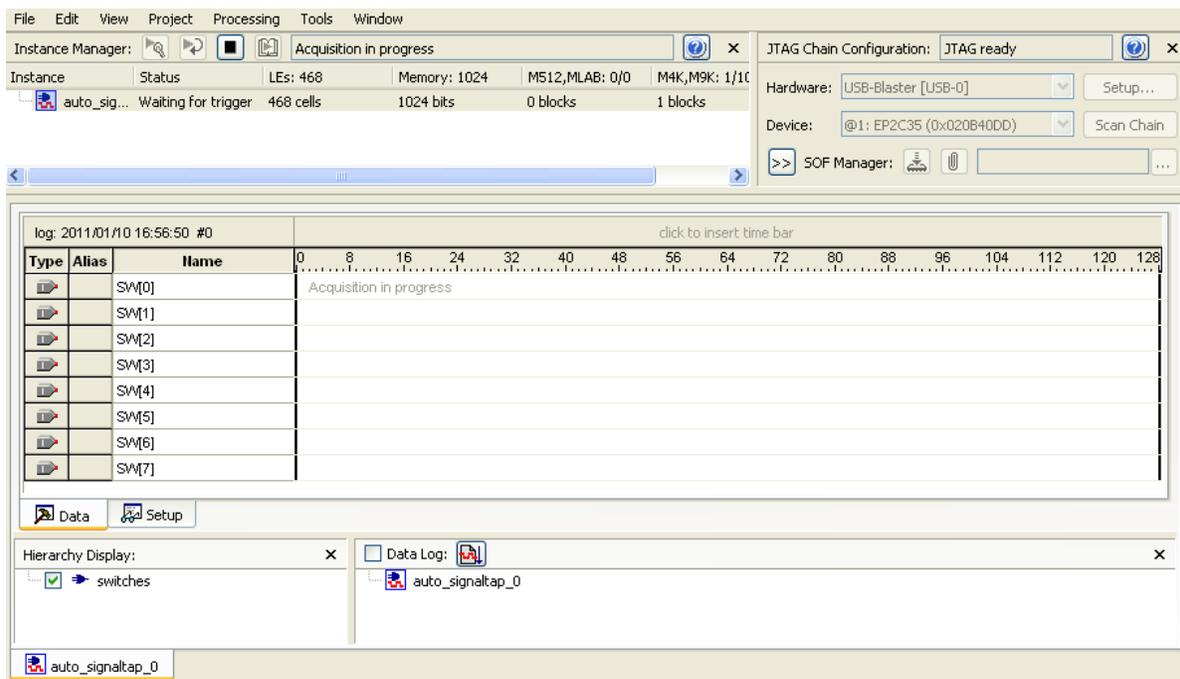

Figure 11. SignalTap II window on a DE-series board after Run Analysis has been clicked.
2. In the SignalTap window, select Processing > Run Analysis or click the  icon. Then, click on the Data tab of the SignalTap II Window. You should get a screen similar to Figure 11. Note that the status column of the SignalTap II Instance Manager pane says "Waiting for trigger." This is because the trigger condition (Switch 0 being high) has not yet been met. (This is of course if Switch 0 is actually low as instructed in the previous step. If it is not, set it to low and then click Run Analysis again).